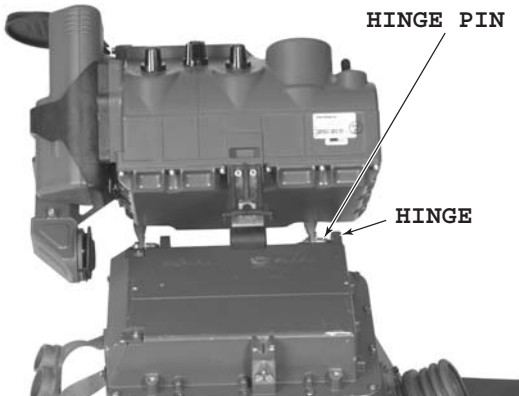

Figure 3-3: Lining up the Hinge Pins with the Hinges
16. **Installing the Thermal Imager.** (See Figure 3-3.) Place the thermal imager on top of the firing post tilted to the right approximately 45 degrees. Line up the hinge pins on the sight with the hinges on the firing post.
Install thermal imager (Figures 3-3 and 3-4)